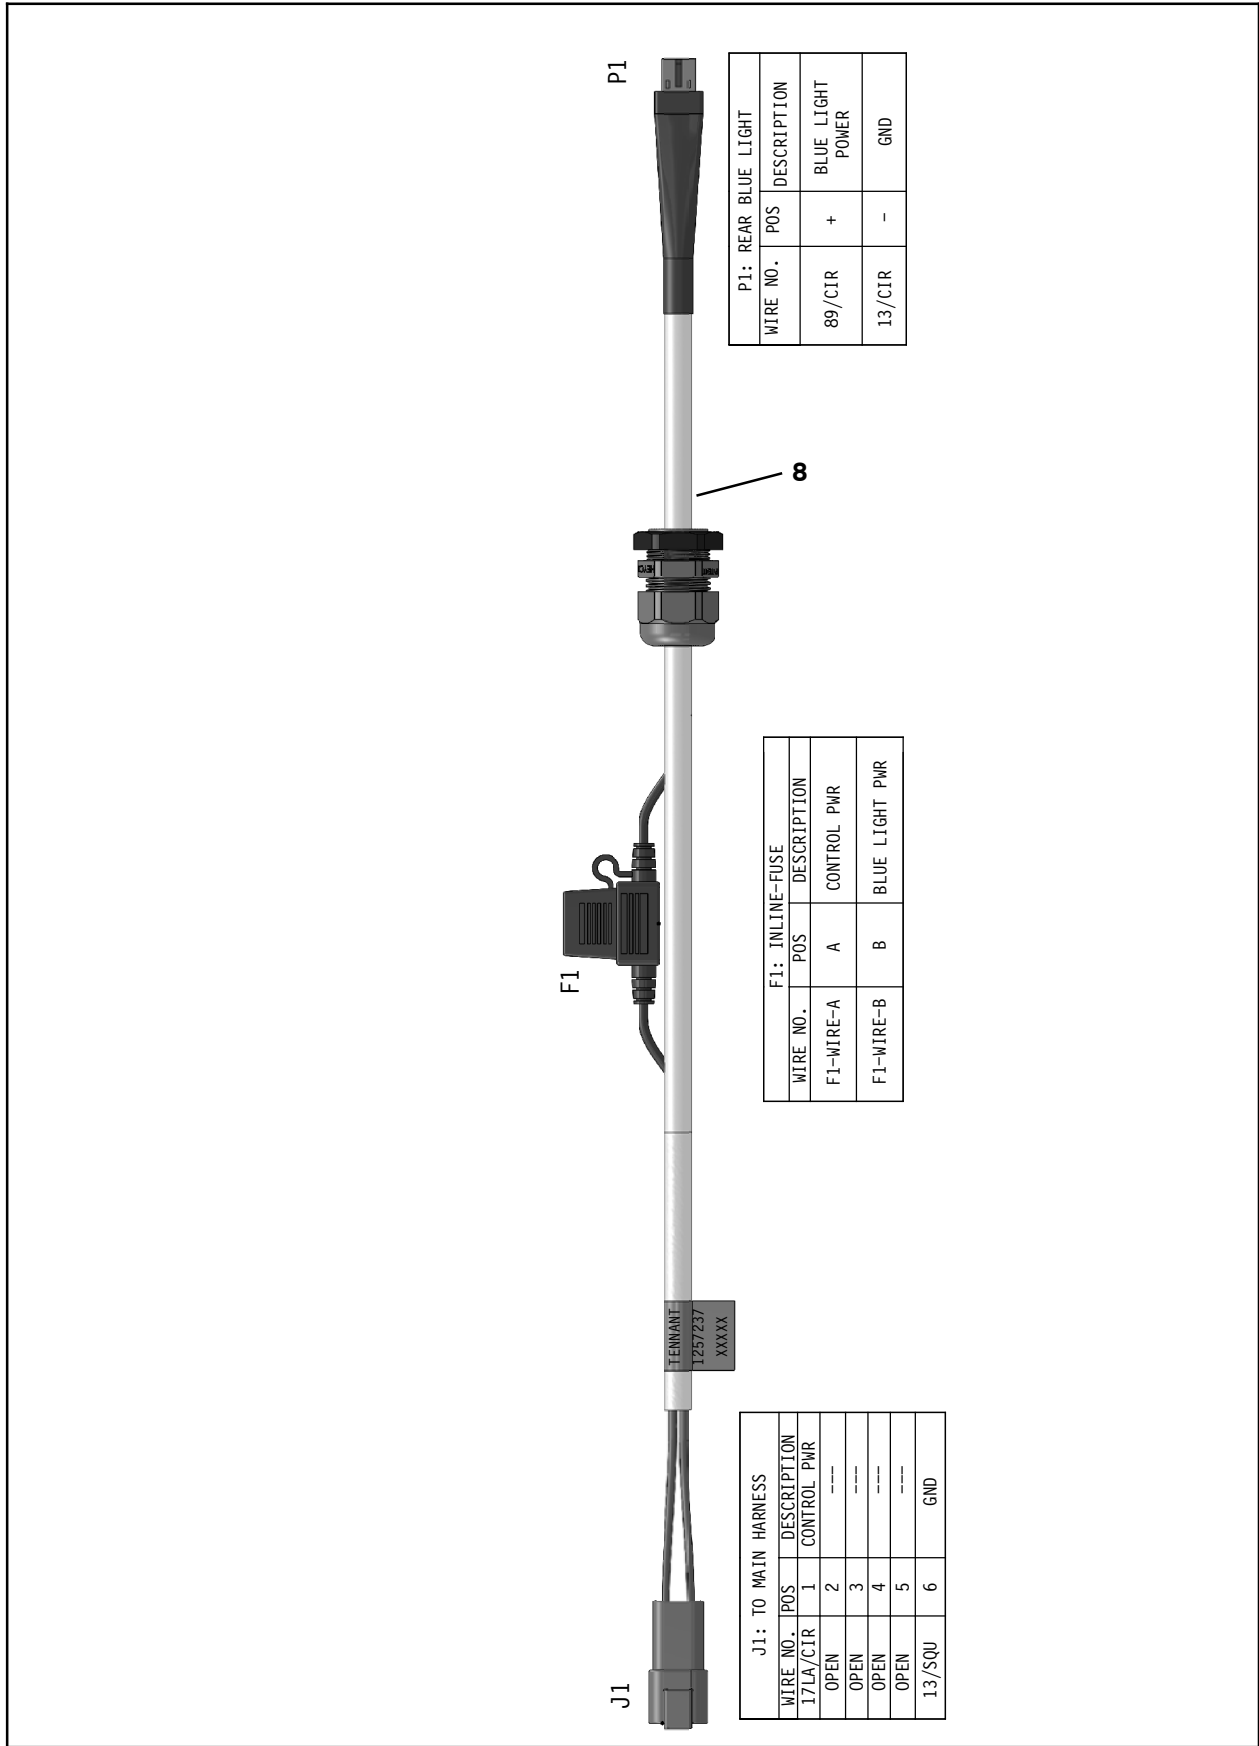

FIG. 39
37. Connect the blue spotlight rear harness (8) to the main wire harness ALARM/LIGHT ASSY lead/connector. (Fig. 39)